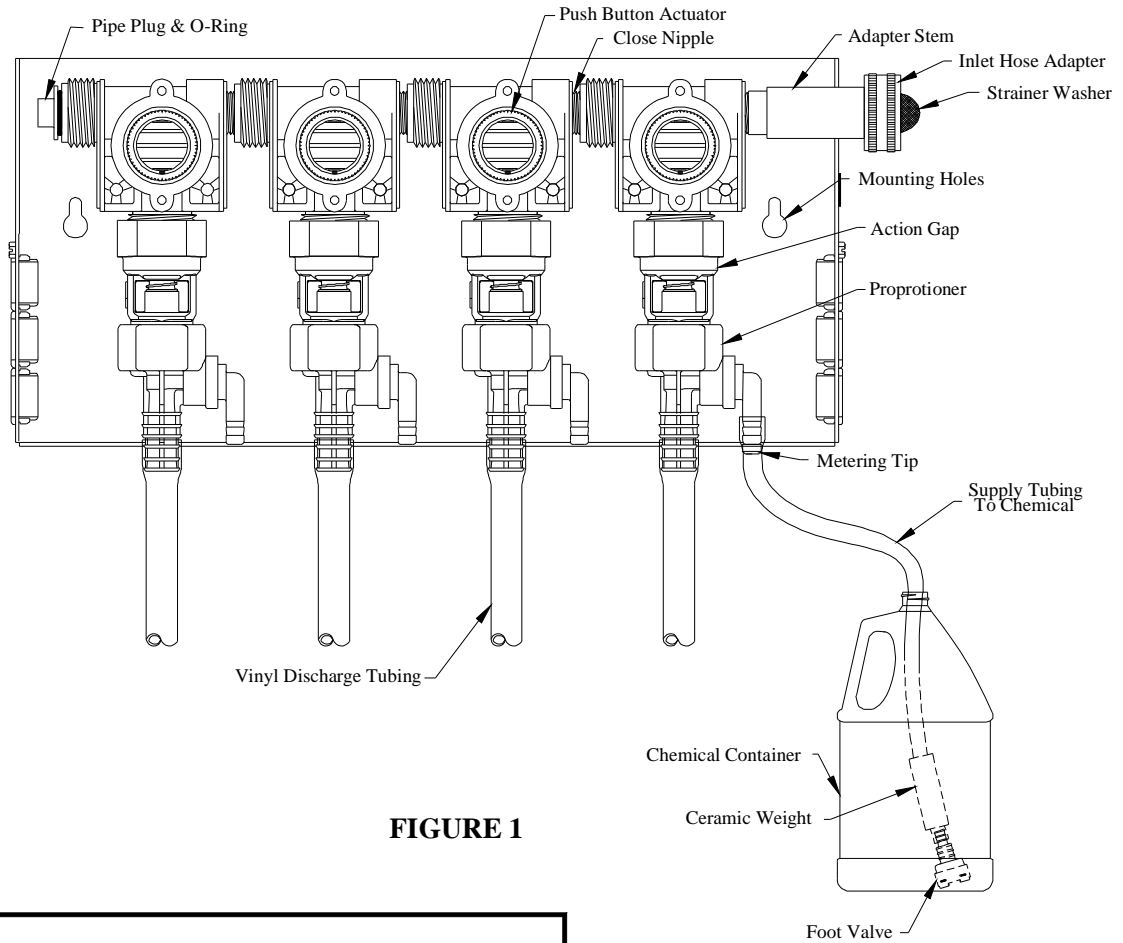

FIGURE 1
C. Chemical Supply: (Refer to Fig. 1) Place the chemical containers in a convenient location not more than 6 feet below the Blend Center. Slip a ceramic weight over the chemical supply tube. Insert the end with the foot valve and ceramic weight of the chemical supply tubing into the chemical container. Cut the chemical supply tubing to any convenient length that will allow it to extend from the bottom of the chemical container to the proportioner inlet barb. Insert other end of chemical supply tubing onto the barb connector tee. Gummed labels are provided for product labeling.